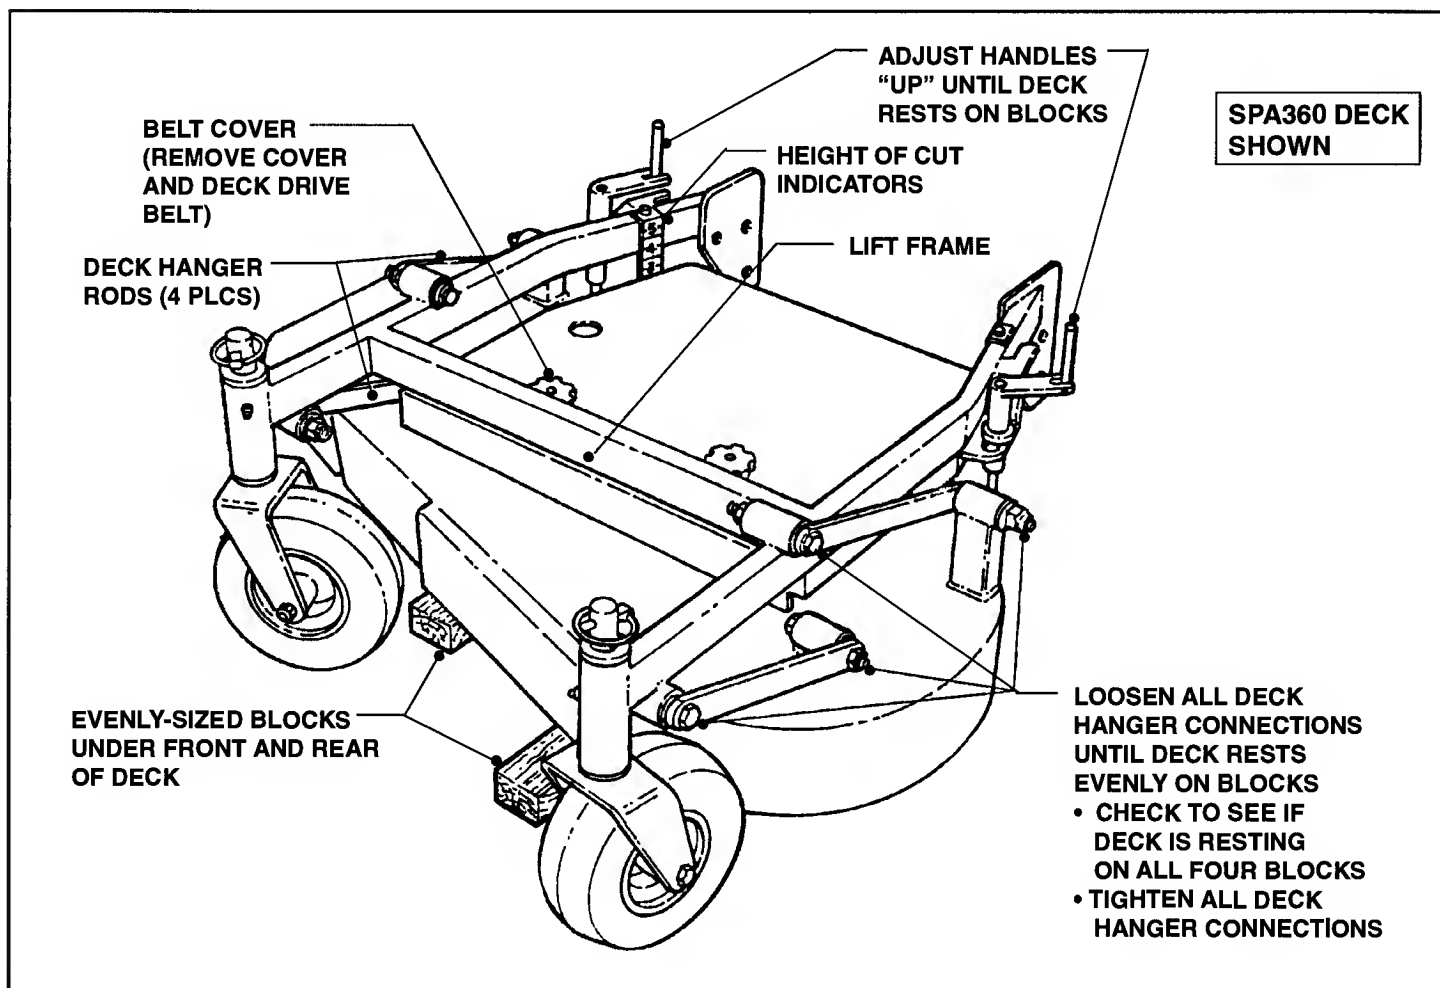

FIGURE 5.25
- Loosen all deck hanger rod connections. See Figure 5.25.